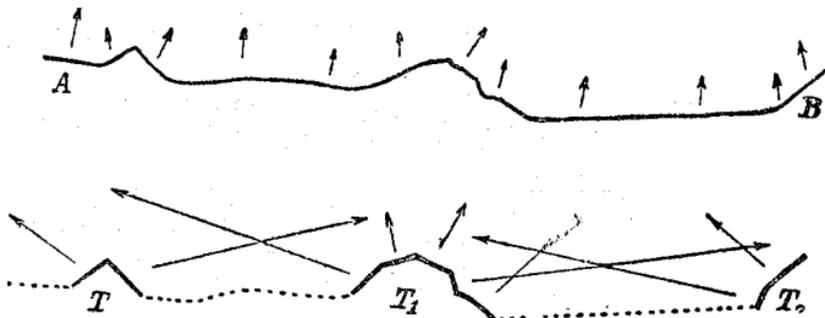

FIG. 163.
1. It is unnecessary to have a *continuous line of fire*, provided the terrain in front is completely swept by fire either *from the front* or *from the flank*, or, better still, *from both front and flank*. *The line with intervals* will generally be the rule. Figure 163 shows how a portion of the terrain may be entirely swept, either by a continuous line of fire AB or by a line with intervals composed of the elements T, T1, T2.